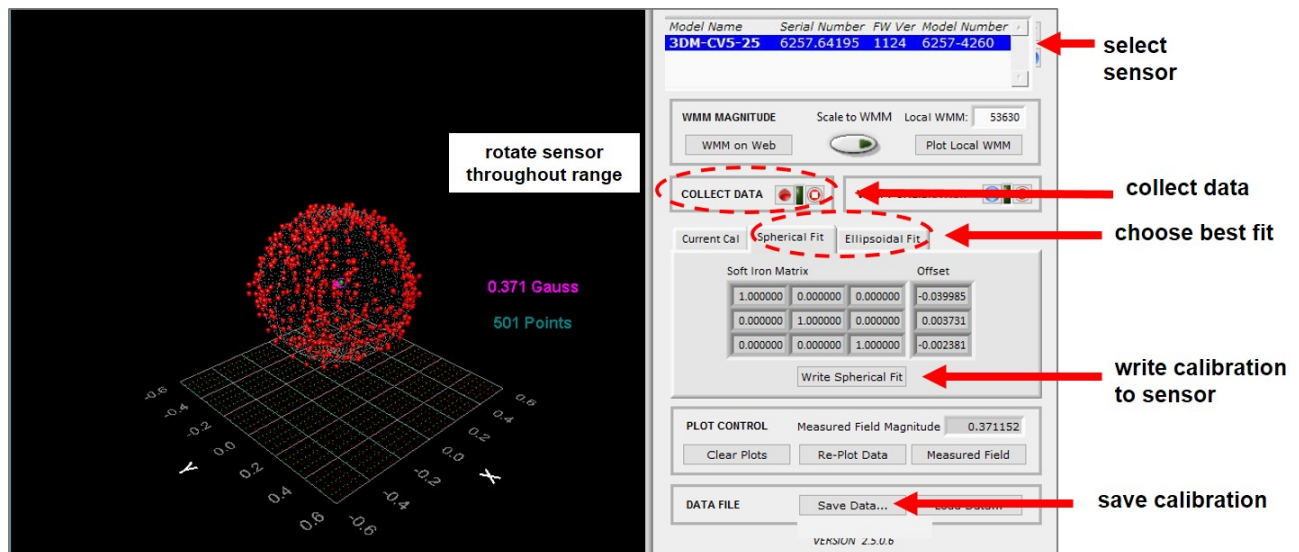

Figure 27 -Collect Calibration Data
- Click the Spherical Fit or Ellipsoid Fit button, depending on the application (*Figure 27 - Collect Calibration Data* ). Spherical Fit is often best for applications with calibration rotations restricted to a 2D plane: for example, a ground vehicle or a boat, because it will not likely not be rotated on all three axis. Ellipsoid Fit is generally a better correction when soft iron effects are present but only if enough data points can be collected in all quadrants. If the range of motion is restricted in one dimension, the Spherical Fit may be the best choice. If there are enough points in all dimensions, the Ellipsoid Fit may be